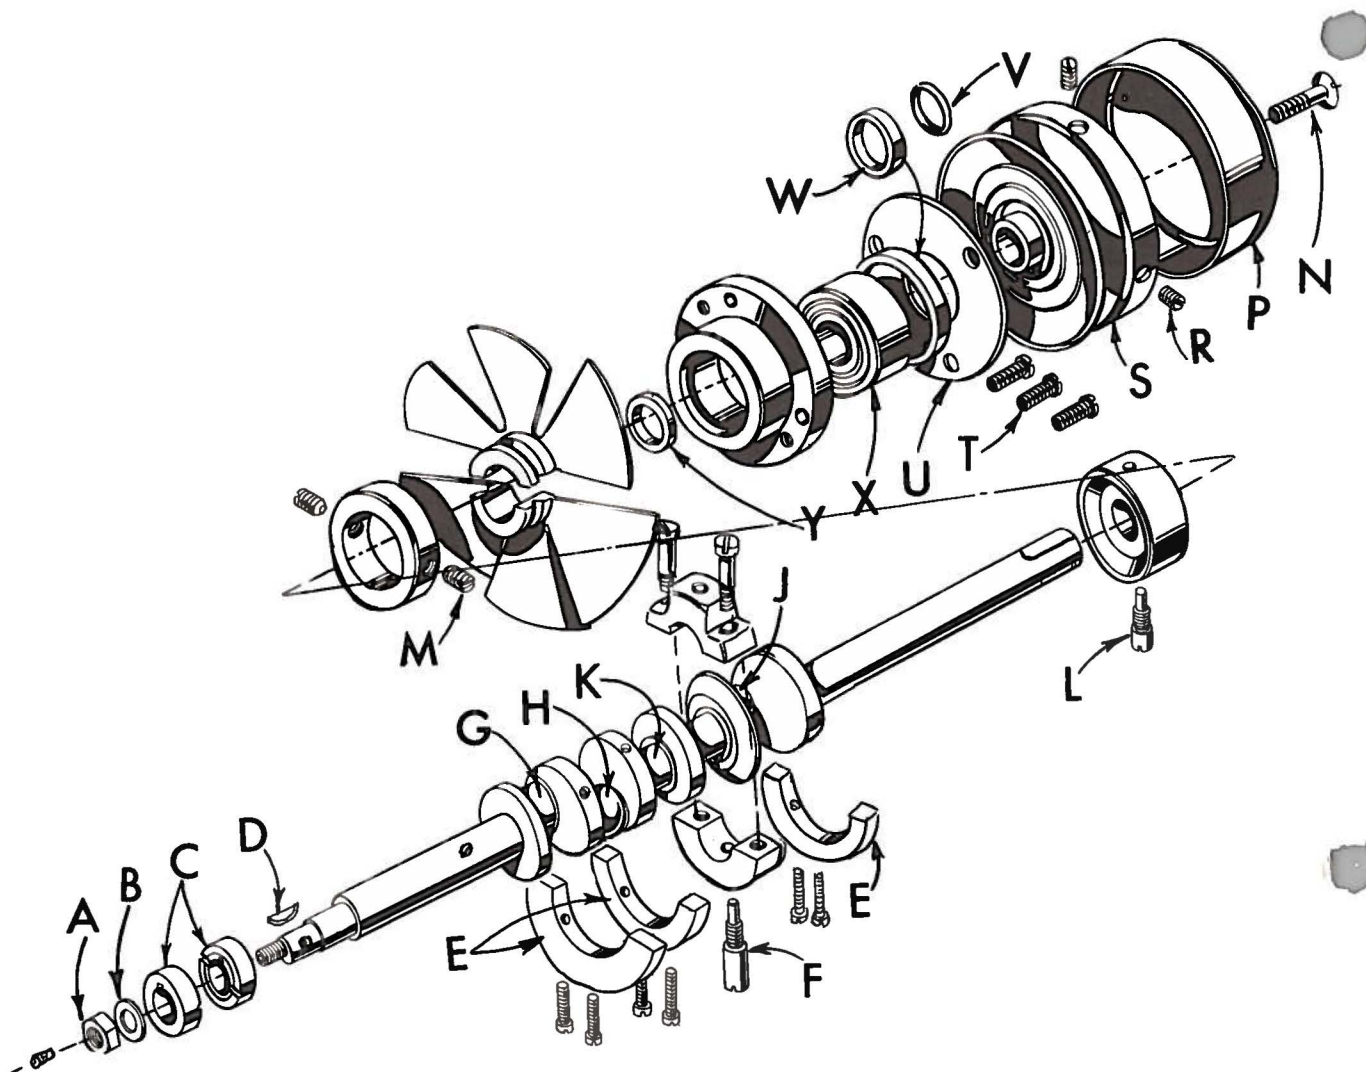
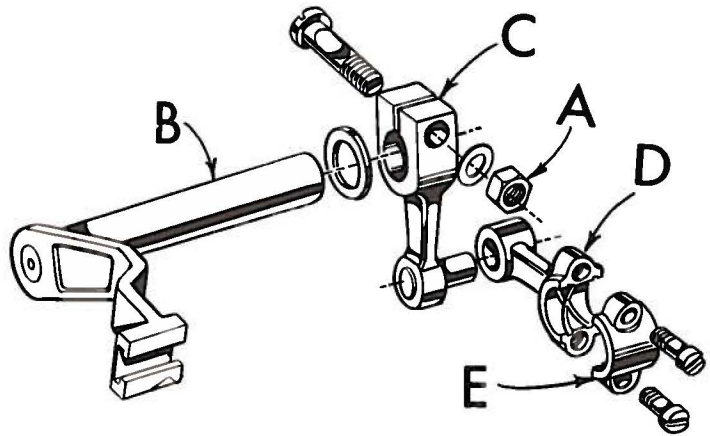

Fig. 17
Fig. 18
3. Remove feed eccentric nut (A, Fig. 17) and washer (B), and, with the aid of the eccentric extractor, slip off the eccentrics (C).
4. Remove key (D).
5. Remove three counterweights (E). Identify these counterweights so that they will be re-assembled in the proper places.
6. Remove screw (F) which holds crankshaft split bearing. This screw is reached through bottom of bed casting.
8. Loosen clamp nut (A, Fig. 18) which holds upper knife driving arm (B). Access to clamp nut is through top cover. Draw driving arm to the left until upper knife driving lever (C) and connecting rod (D) drop, allowing removal of bearing cap (E). This is at bearing point (K, Fig. 17) on crankshaft. Observe same precautions when re-assembling cap as described in 7 above.
9. Remove screw (L, Fig. 17) which holds inner right crankshaft bearing. This screw is reached through bottom of bed casting.
10. Loosen two screws (M) in fan collar; remove both halves of cooling fan.
11. Remove screw (N); take off pulley cap (P).
12. Loosen two screws (R); remove pulley (S).
13. Remove three screws (T); take off bearing retaining plate (U); also, spacer collars (V) and (W) may be removed at this time.
15. If necessary to replace ball bearing (X), it should be pressed off shaft on an arborpress. In replacing bearing it must be pressed on carefully until it seats against ground thrust washer (Y).